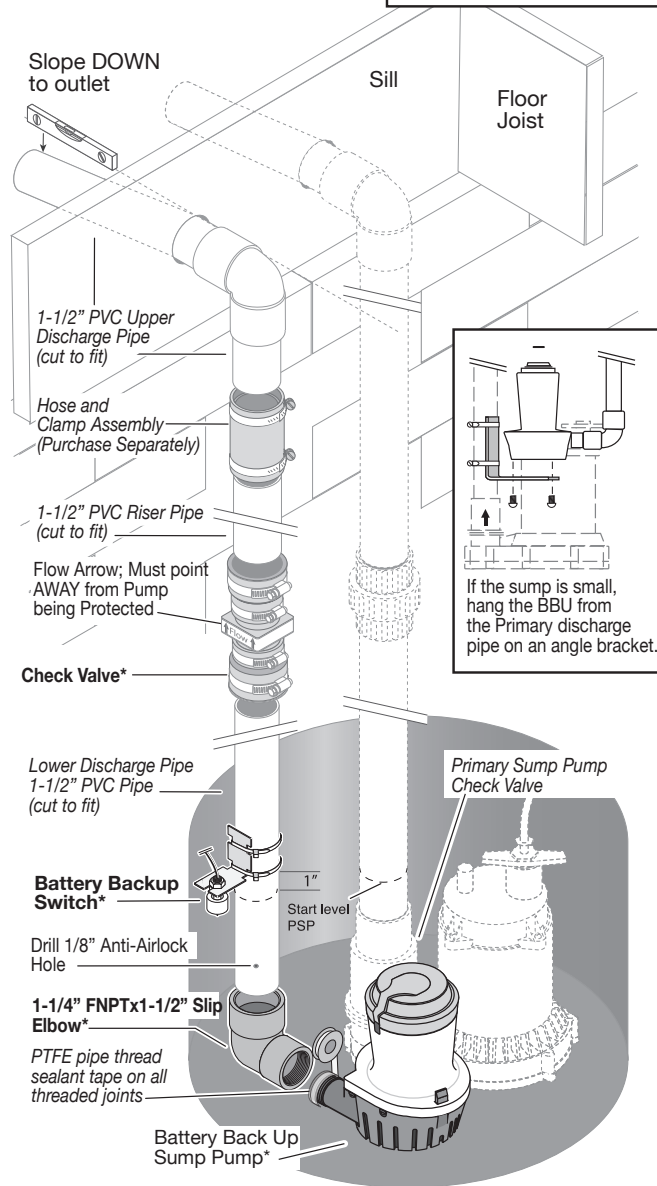

Figure 2: Separate Discharge - Typical Installation
- ◆ Study pages 5-9 to determine which installation method will be best for you. The "Separate Discharge" (Figure 2), installation is recommended.
Mount the backup pump on the angle bracket (Figure 2).